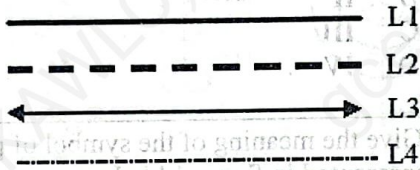

Figure 7
11. The line labelled L1 in figure 7 below is used as a/an